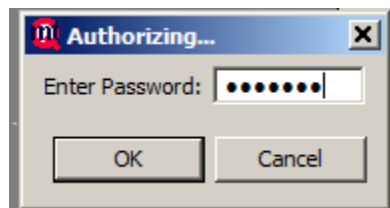

Figure 10: Password Request Window
3.3.5 The window in Figure 10 will appear. You need to enter the password “quattro” and click the OK button to get access to the calibration screens.